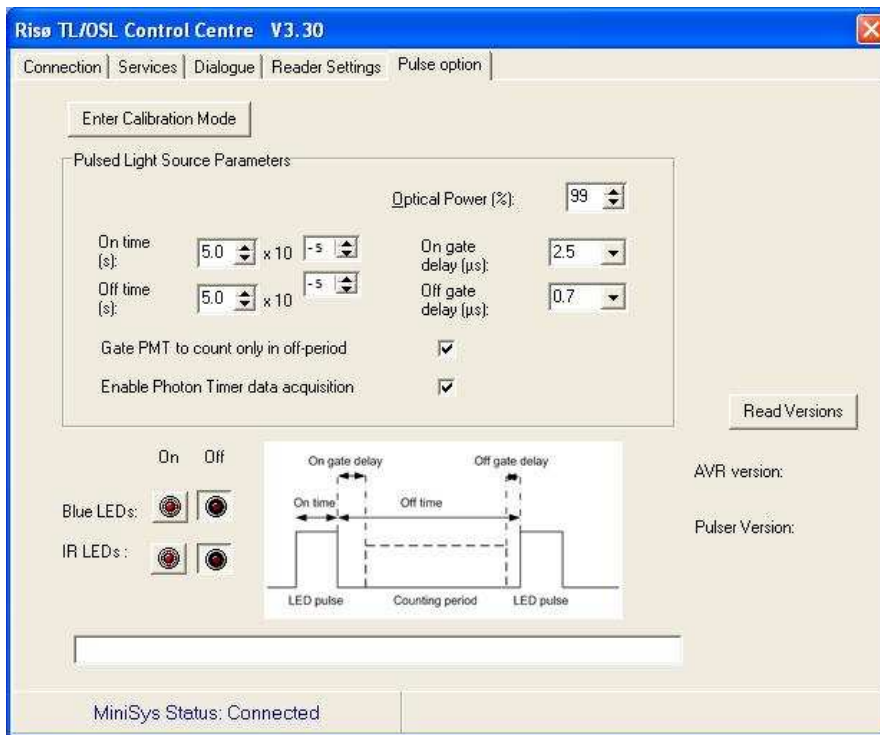

Figure 7: Control program - Pulse Option tab.
5. Now adjust the maximum diode current to final values. Adjust the parameter settings in the Risø Control Program (see Figure 7):